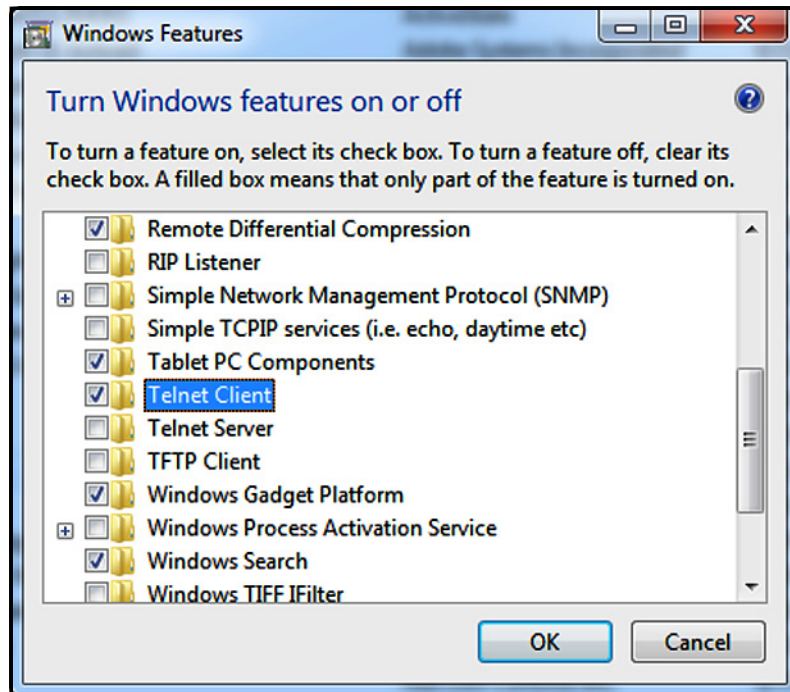

Figure 113: Windows Features Dialog Box
4. In the Windows Features dialog box, check the Telnet Client check box (see Figure 113 below).